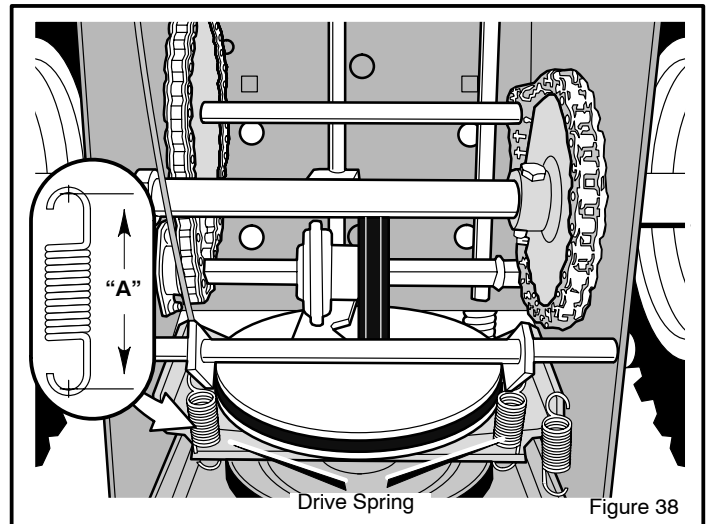

Figure 38
9. To check the adjustment, depress the drive lever and check the length of the **drive spring** (see Figure 38). In correct adjustment, the length of the **drive spring** is minimum 3 inches (76 mm.) maximum 3-3/8 inches (85 mm.).